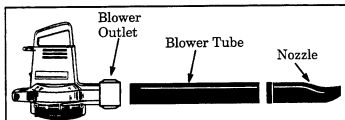

Figure 1
1. Assemble the blower tube to the blower outlet. Figure 1. Turn the blower tube clockwise until secure.
2. Assemble the nozzle to the blower tube. Figure 1. Turn the nozzle clockwise until secure.